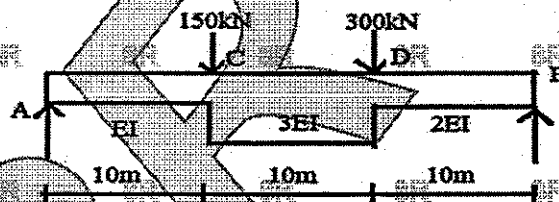

Figure: 4
b) Using conjugate beam method, obtain the slope and deflections at A, B, C and D of the beam shown in Figure 4. Take  $E = 200 \text{ GPa}$  and  $I = 2 \times 10^{-2} \text{ m}^4$ . [7+8]